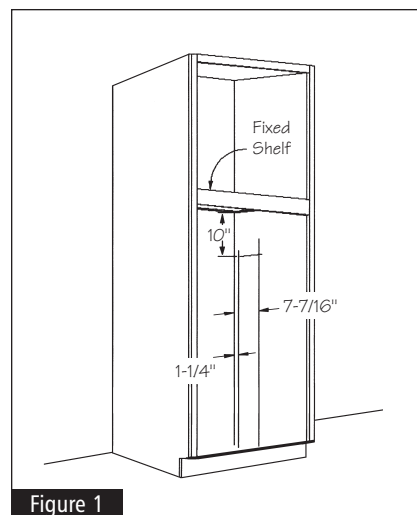

Figure 1
- 1** Mark two lines 1-1/4" and 7-7/16" from the back of the cabinet on the cabinet side panel. Be sure the lines are parallel with the back of the cabinet. See Figure 1.
- 2** Mark a line 10" from the fixed shelf. Be sure the line is parallel with the fixed shelf. See Figure 1.